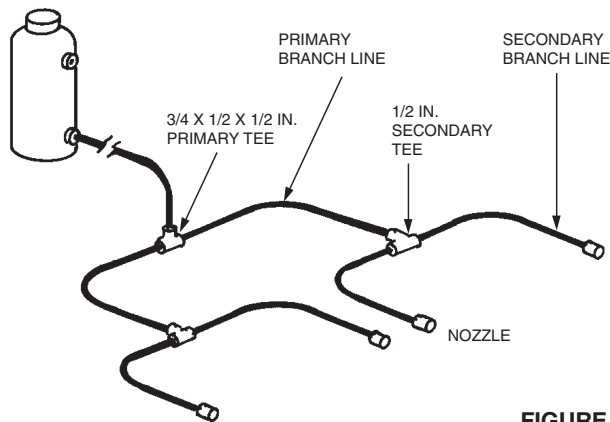

FIGURE 9A
- A balanced system must be a distribution network where the linear length of the primary branch line on one side of the primary tee to the secondary tee must be within 10% of the linear length of the other primary branch line from the primary tee to the secondary tee. Also, the linear length of the secondary branch line on one side of the secondary tee must be within 10% of the linear length of the other secondary branch line sharing the same tee. A balanced system can be used with two, four, or six nozzle systems. See Figure 9A.